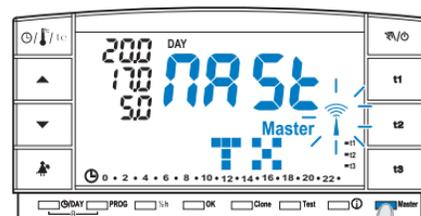

fig. 82
- press the **Master key for 4 seconds**: "MASt" will be displayed (example in fig. 82).